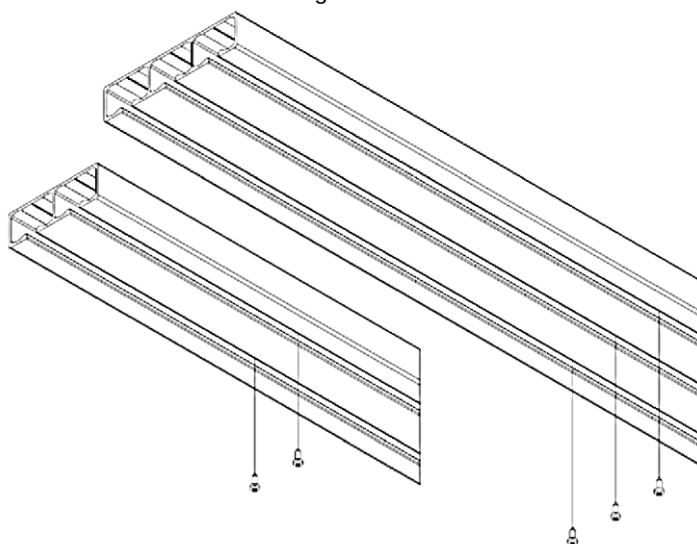

Fig. 3
3. Attach the top guide rails with the carriages installed to the steel substructure using ST4.2x13 screws and the bolt hole pattern of the rail (Fig. 3).